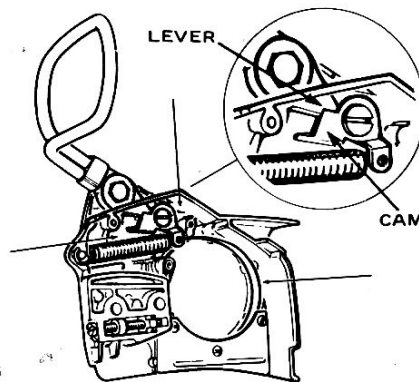

FIGURE 35
13. **CHAIN BRAKE:** To allow for free movement and full contact of the brake band, keep the clutch drum and cover mechanism clean and free of dirt and sawdust in the areas shown in figure 35. Failure to do so may result in brake malfunction.
To aid in maintaining proper brake function, each work day shut off engine, engage the chain brake, (push level forward) and apply a small amount of HTB-2 grease at the point of contact of the lever and cam. Periodically lubricate the lever pivot point with oil. See figure 35 inset and 36.